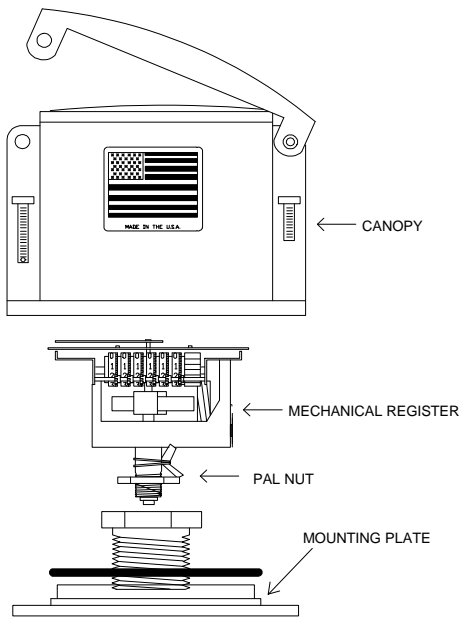

Figure 5. Canopy, Register Removal
Remove the six (6) screws holding the Canopy to the mounting plate and discard, Figure 5. One of the screws has a seal attached, remove it prior to removing that screw. Lift off the canopy carefully to prevent damage to the register.